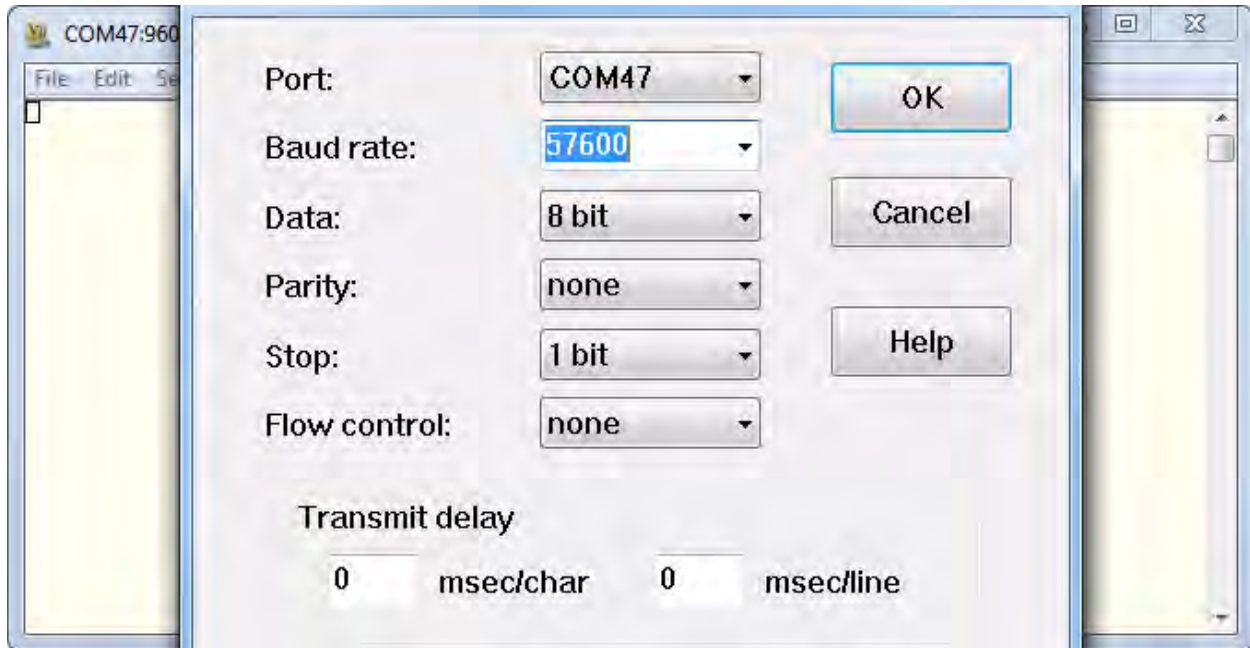

Figure 9. Baud Rate Setting
3. Click **Setup**. The Baud Rate Setting dialog will appear, as shown in Figure 9.